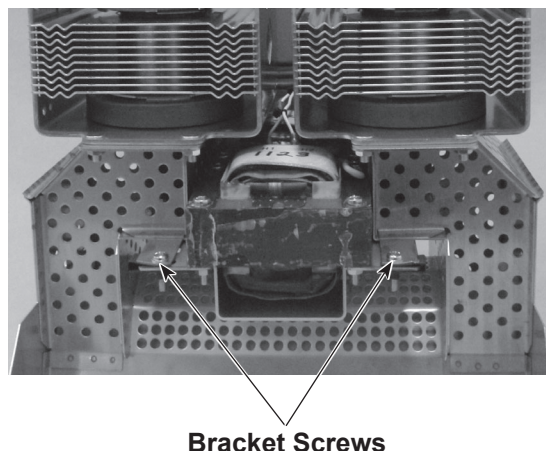

Figure 6-17 Transformer Bracket Screws
3. Remove the two M4 bracket screws shown in Figure 6-17.
15. Slide the transformer bracket all the way into the waveguide assembly. Secure the bracket with the two M4 screws shown in Figure 6-17.